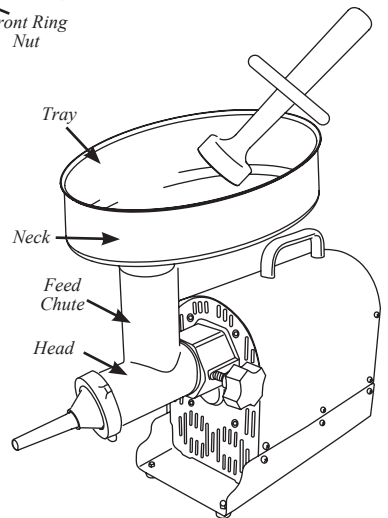

FIGURE 7
7. Insert the neck of the Tray into the Feed Chute **(FIGURE 7)**.
8. NEVER operate Grinder without the Tray secured in place **(FIGURE 7)**.